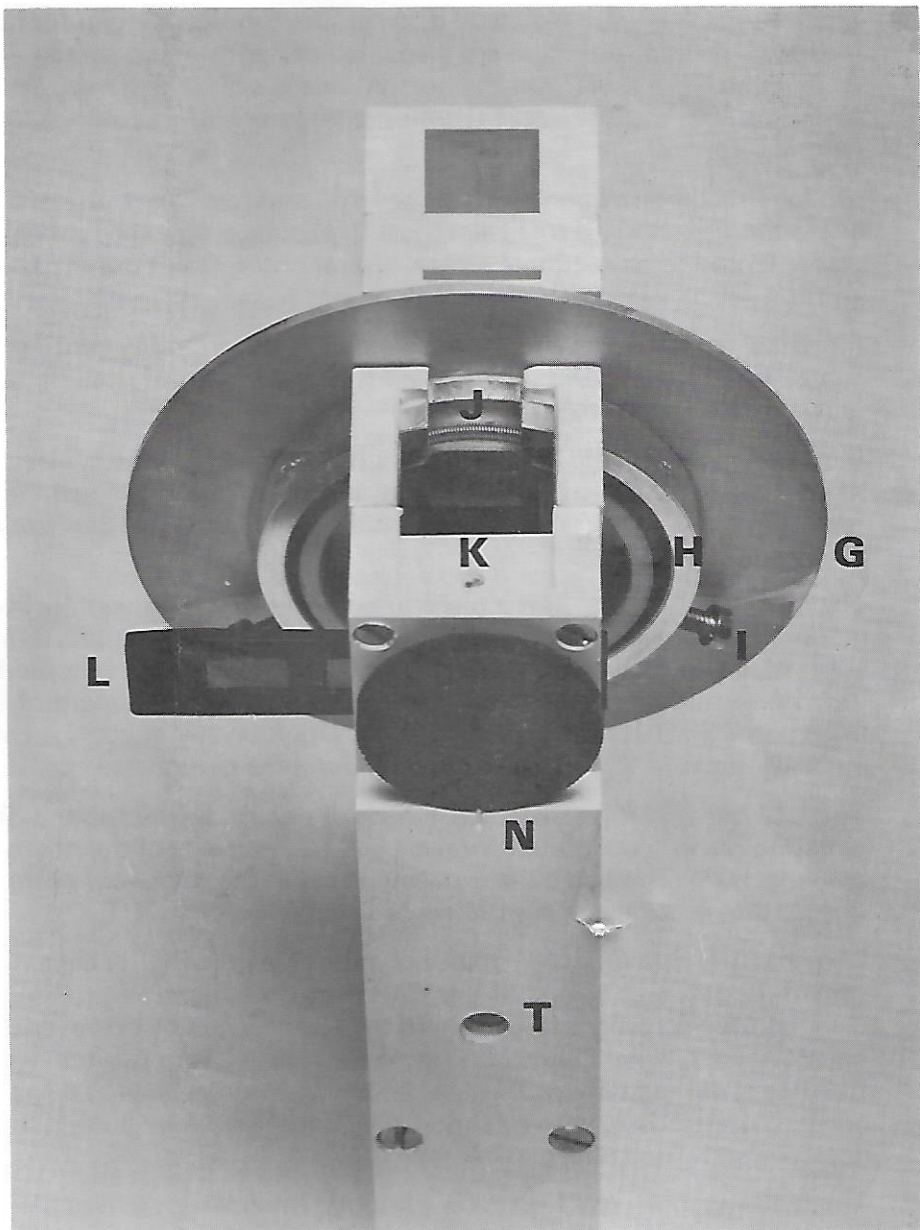

Figure 3
(ii) Draw back the small tension spring (J) at the front, by putting a pair of tweezers between points J and K in Figure 3, and slipping the flange of the stage into place.
(iii) Lightly tighten the holding screws (I; these are also the centring screws) so that the gap between flange and sleeve is the same all the way round (Fig. 3) but make sure that the stage can be rotated smoothly, without stiffness.
The polarizer (L) (Fig. 3) is a piece of polaroid beneath the objectives, mounted on a black plastic slide of its own, and cut so that its vibration plane is perpendicular to the long axis of the microscope. It should be inserted so that it is half way in. Once adjusted, this component of the microscope **SHOULD NOT BE MOVED**. Don't bother about the two *outer* windows in this slide, you will be using the centre one.
The focusing screw (N) (Fig. 3) is a knurled knob which moves the objectives up or down to focus. Do not over-tighten as this may damage the plastic thread.
A miniature camera tripod. When packed, the aluminium legs are enclosed in the black square grip. To extract the legs, unscrew the knurled knob at the *base* of the grip and pull out the legs. Replace and tighten the knob afterwards. Screw the tripod into the hole in the base of the microscope (T) (Fig. 3). The ball joint on the top of the tripod can be released by turning the oblong nut.